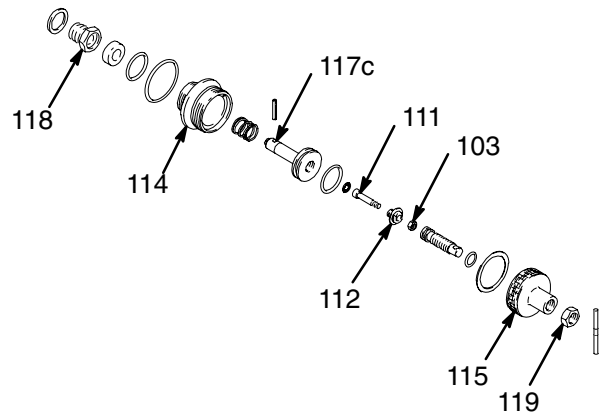

Fig. 6
If further repair is needed, relieve the pressure. Unscrew the valve housing (114) and seat (118) from the pump base. See Fig. 6.
Check the piston travel. Unscrew the cap (115) from the housing. Check for a 1/4 in. (6 mm) clearance between the stop nut (112) and the jam nut (103). If adjustment is necessary, loosen the jam nut and turn the adjusting stem (111) in or out until you obtain the proper clearance. See Fig. 6. Tighten the jam nut.